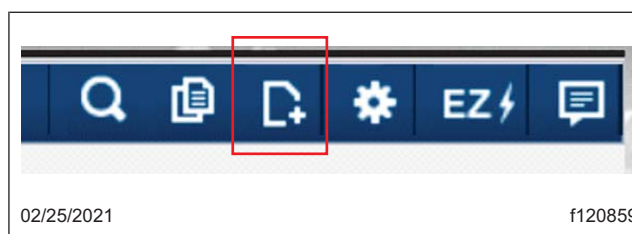

Fig. 4, "Add Annotation" Button
- Click on the "Add Annotation" button. See Fig. 4.